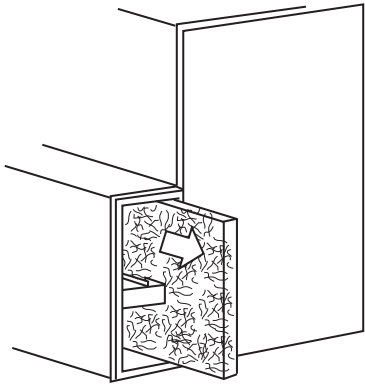

Fig. 23 - Removal of Filter from Side Blower Cabinet
- b. Slide air filter out of furnace. Keep dirty side up (if dirty) to avoid spilling dirt. See Fig. 23 and 24.